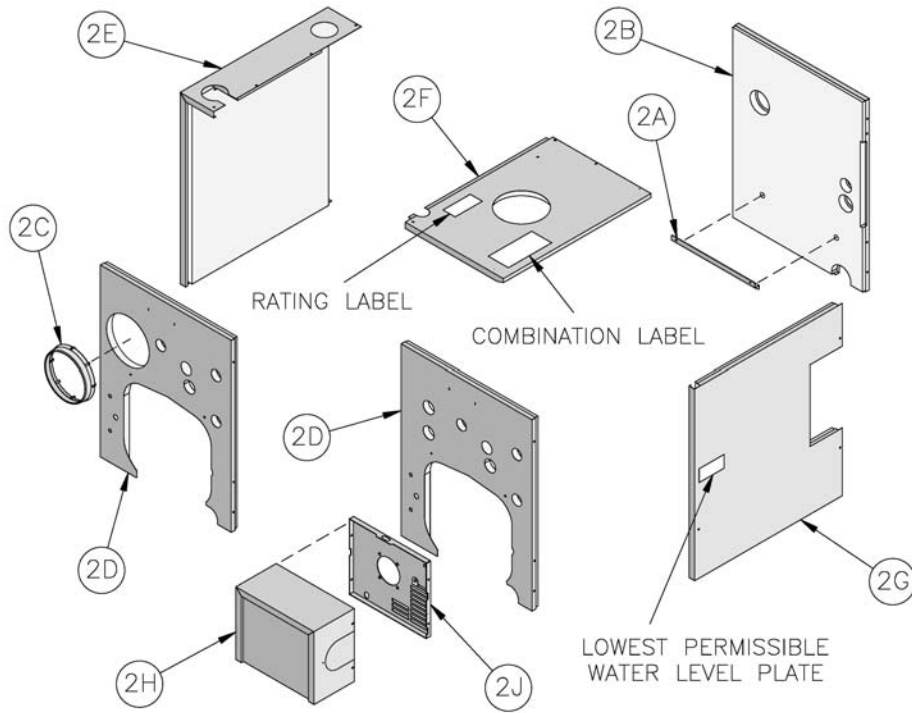

Figure 6: Knockdown Boiler Jacket Assembly
I. INSTALL BOILER JACKET. (See Figure 6).
- Remove burner swing door and hinge assembly. Remove one (1) 5/16"-18 flange nut and washer from right side latching stud and one (1) 5/16"-18 x 3 1/2" cap screw on left side used for securing burner swing door to the boiler section. Swing door open and remove 5/16" hairpin cotter from rear hinge pin. While holding swing door remove hinge pin and set door aside. Remove two (2) 5/16" - 18 x 3/4" long cap screws securing the hinge bracket to the boiler section.
- Install jacket rear panel support bracket. (See Figure 6, Item 2A). Align bracket with two (2) 5/16" - 18 tapped holes in rear section and secure with two (2) 5/16" - 18 x 1/2" long cap screws.
- Install jacket rear panel. (See Figure 6, Item 2B). Align holes in jacket rear panel and support bracket. Secure with two (2) #8 x 1/2" long sheet metal screws.
- Install black plastic collar extension to jacket front panels for 7-13/16" diameter tankless heater opening. (See Figure 6, Items 2C and 2D). Engage two (2) of the collar retaining tabs over raw edge of jacket opening. Provide support behind the panel with one hand while applying pressure on collar to snap each tab over edge of opening until all eight (8) tabs are securing collar.
- Install jacket front panel. Locate two (2) 11/32" diameter holes, one round, one obround, on front panel approximately 16" up from the bottom of the panel. Align these holes with the similarly located 5/16" - 18 tappings on the front section. Secure with two (2) 5/16" - 18 x 1/2" long cap screws.
- Install jacket left side panel. (See Figure 6, Item 2E). Fold panel at perforation keeping insulation inward. Align left side panel mounting holes with the front and rear panel holes. Secure with #8 x 1/2" long sheet metal screws.
6. Install jacket top panel. (See Figure 6, Item 2F). Place jacket top panel on boiler and secure to front, rear and left side panels with #8 x 1/2" long sheet metal screws.
7. Install jacket right side access panel. (See Figure 6, Item 2G). Align right side panel mounting holes with front and rear panel holes. Secure with #8 x 1/2" long sheet metal screws.
- a. Locate both the Rating Label and Combination Warning Label (P/N 8142803). Remove paper backing from the labels and apply to the jacket top panel in approximate locations shown in (Figure 6, Item 2F).
- b. On steam boilers only; locate Lowest Permissible Water Level Plate (Form No. 1204 shipped in Steam Trim Carton). Align plate with two 1/8" diameter holes located near the front edge; in line with the lower sight glass tapping, of the jacket right side access panel. Attach plate with two (2) #8 x 1/2" long sheet metal screws. (See Figure 6, Item 2G).